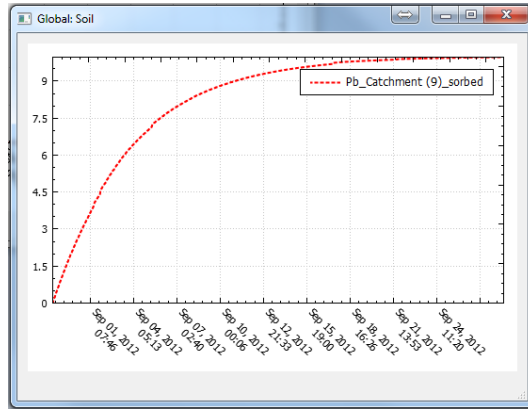

Figure 4: Concentration of Pb accumulated on the surface for the case when solid-water exchange is inactive
9. Right-click on one of the catchment blocks and click on **Plot water quality results**→**Sorbed/particle associated**→**Pb**→**Soil** to see the temporal variation of Pb accumulated on the surface. The results should look like Figure 4. As it can be seen the concentra-